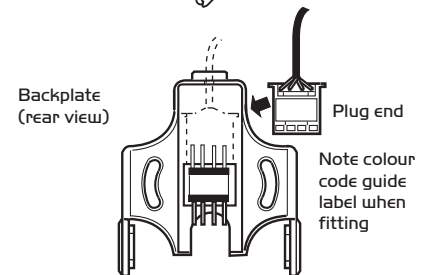

Figure 3.
- e) Before fixing the backplate to the wall, connect the wall fixed cable end plug to the upper set of pins on the bracket (fig 3).